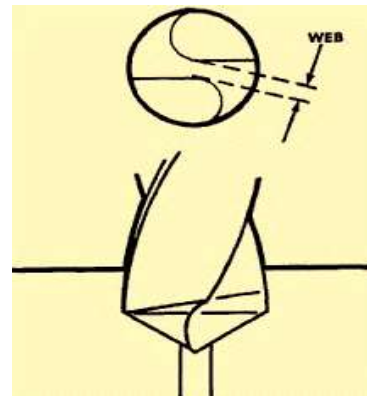

Figure 4-34. Using a pilot hole
**Pilot Hole:** As the drill size increases, both the size of the web and the width of the chisel edge increase (Figure 4-34). The chisel edge of drill does not have a sharp cutting action, scraping rather than cutting occurs. In larger drills, this creates a considerable strain on the machine. To eliminate this strain when drilling a large hole, a pilot hole is drilled first (Figure 4-34) and then followed with the larger drill. A drill whose diameter is wider than the web thickness of the large drill is used for the pilot hole. This hole should be drilled accurately as the larger drill will follow the small hole.